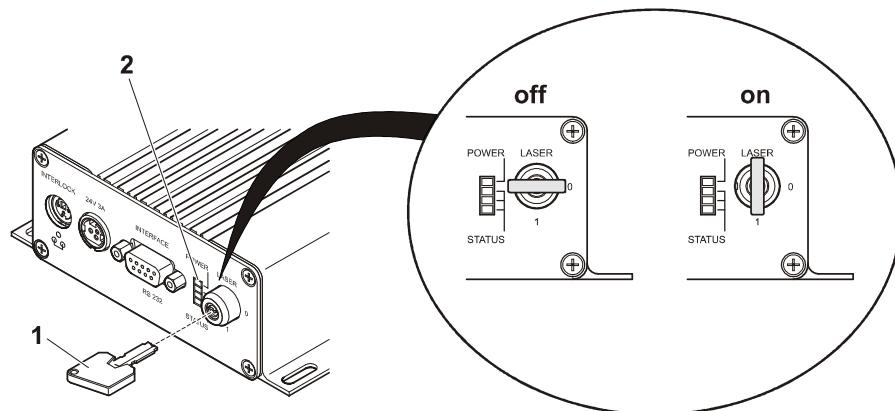
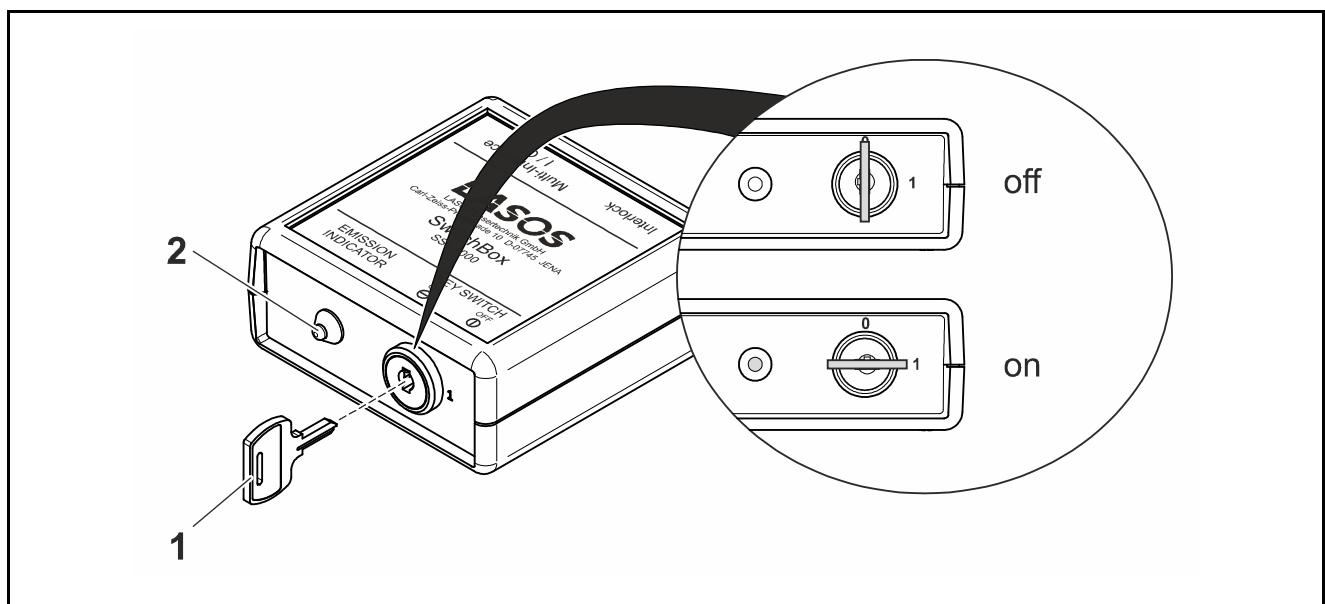
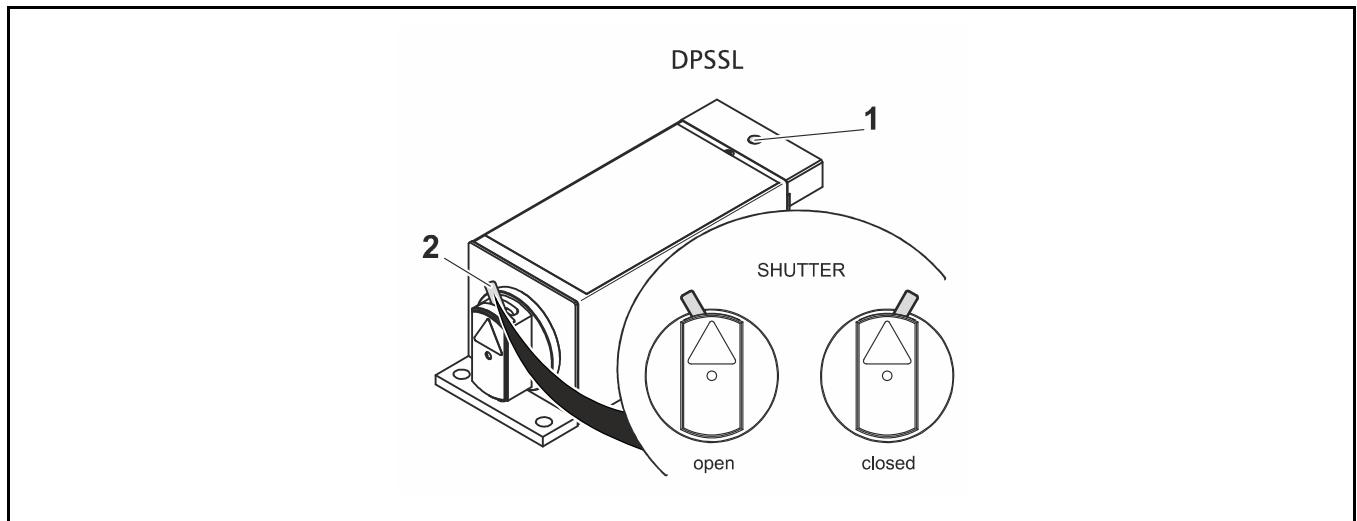

Fig. 19 Switching on the control unit
Fig. 20 Key switch
Fig. 21 Emission control and shutter
The laser is switched on (Fig. 19/on) and off (Fig. 19/off) by the key switch (Fig. 19/1).
The emission control lamp (Fig. 19/2) signalises the presence of dangerous laser radiation.
The laser system (laser module and control unit) is switched on by applying a supply voltage to the connected control unit. The red emission indicator lamp on control unit (Fig. 19/2) light up.
Before, an authorized person must insert the key (Fig. 19/1) in the key switch, if used.
- If provided, switch the key switch (Fig. 19/1) of the control unit in the **on** position.
After applying a supply voltage and switch-on of the control unit (if key switch is provided), instantly laser radiation can be emitted from the connected laser module. This condition is signaled by lighting of the red emission indicator lamps located at the top of laser module (Fig. 18/1) and at the front panels of control unit (Fig. 19/2).
The laser system is switched on by applying a supply voltage to the SwitchBox. The yellow emission indicator lamp on the SwitchBox (Fig. 20/2) lights up.
- If provided, switch the key switch (Fig. 20/1) of the control unit in the **on** position.
An authorized person must insert the key (Fig. 20/1) in the key switch, if used.
- Open the laser beam path by opening the shutter (if provided) on the laser module (Fig. 21/2). Do not open the beam path unless the working conditions are safe!
After applying a supply voltage and switch-on of the SwitchBox (if key switch is provided), instantly laser radiation can be emitted from the connected laser module. This condition is signaled by lighting of the red emission indicator lamp located at the top of the laser module (Fig. 18/1) and the yellow emission indicator lamp at the front panels of SwitchBox (Fig. 20/2).
- Close the laser beam path with the shutter (if provided) on the laser module (Fig. 21/closed).
- Turn the key of the key switch at the connected SwitchBox or the controller CKL 24xy z in off position respectively (Fig. 19/off, Fig. 20/off), if provided.
The laser module is switched off. The yellow emission indicator lamps on SwitchBox (Fig. 20/2) and the red emission indicator lamp on the laser module (Fig. 21/1) go out.
The key is removable in position "0". (Fig. 20/off)
The key (Fig. 20/1) has to be stored at a safe place.
If provided an authorized person shall remove the key (Fig. 19/1, Fig. 20/1) from the device and store it in a safe place for safety reasons.
- Before any transportation or storage of the device, close the shutter (if provided) at the laser exit aperture (Fig. 21/closed) to avoid contamination.